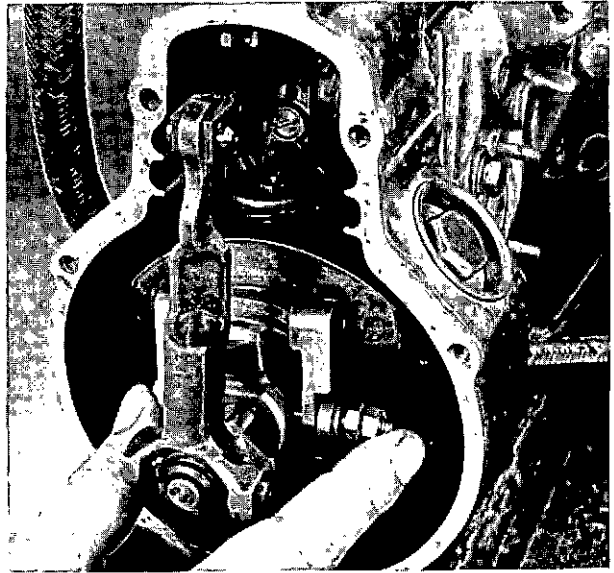

Fig. 52 Coupling bolt, floating lever and slider.
5. Assemble the coupling bolt so that it has an end float of 1 to 2 mm (0.040 to 0.080 inch), tighten its two nuts together and bend their lockwasher over one flat of each. Mount the slider and floating lever and fit the link pin, together with its splitpin (fig. 52).